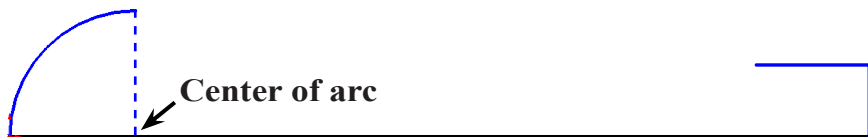

Fig. 3
Step 2. Click **Centerpoint Arc**  (S) in the **Arc flyout**  on the Sketch toolbar.
Step 3. Click the bottom horizontal line close to the Origin to place the center of the arc. Click the Origin to start the first arc endpoint, then move cursor around clockwise to swing arc 90 degrees. Click to place the second endpoint, **Fig. 3**. Use the inferencing line, the dotted line that appears when you sketch the arc 90 degrees.